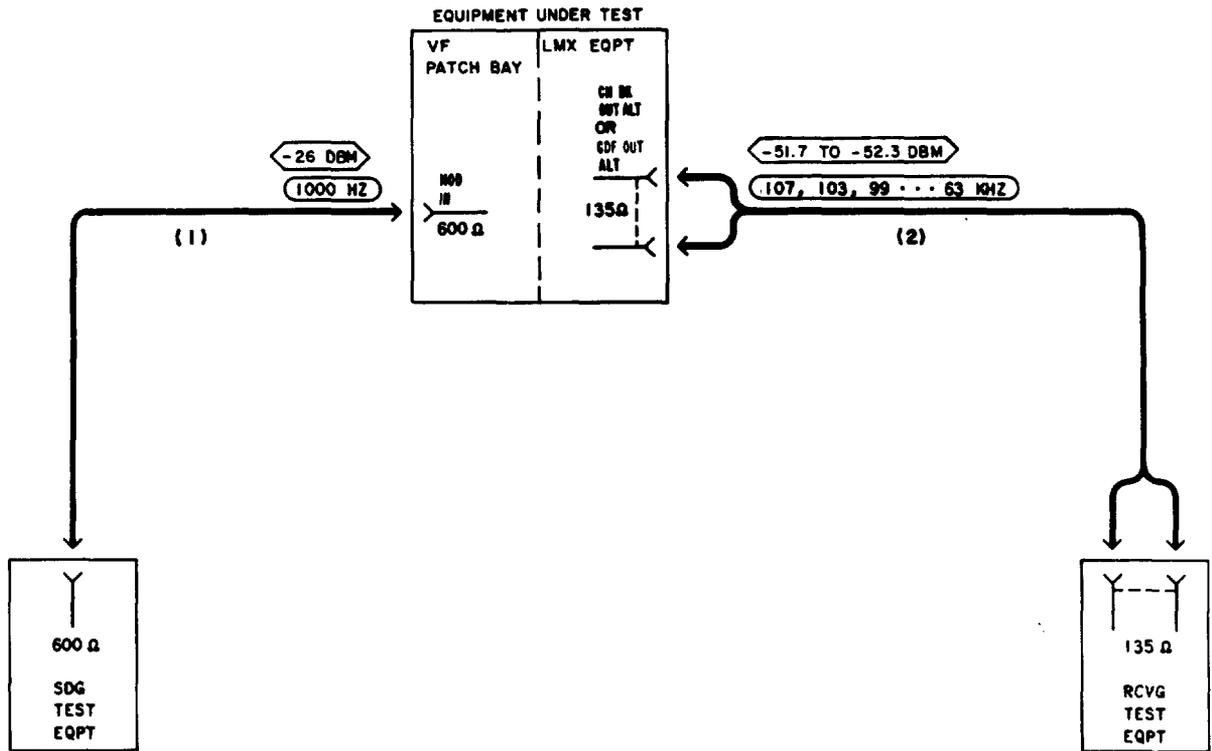

Fig. 2—Patching Diagram—Transmitting Level Adjustment
| 2 | Connect the STE to the MOD IN jack for the channel selected in Step 1 [patch (1), Fig. 2]. |
- 3 At the LMX equipment, connect the RTE to the CH BK OUT ALT (LMX-2) or GDF OUT ALT (LMX-3) jack [patch (2), Fig. 2].
- (1) Replace the applicable plug-in channel modem with a spare unit.
- (2) If the requirement of Step 4 **still cannot** be met, reinsert the channel modem replaced in Step 6(b)(1) and refer to Sections 356-015-500 and 356-015-501, Chart 4, to clear channel filter problems.
- 7 Remove patch (1), Fig. 2.
- 9 At the LMX equipment, remove patch (2), Fig. 2.